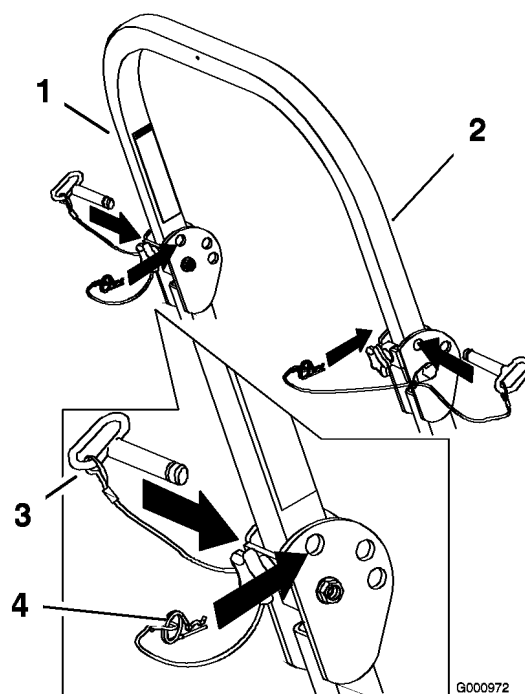

Figure 7
2. Remove the hairpin cotter pins and remove the two pins (Figure 7).
4. Install the two pins and secure them with the hairpin cotter pins (Figure 7).
5. To raise the roll bar, remove the hairpin cotter pins and remove the two pins (Figure 7).
6. Raise the roll bar to the upright position and install the two pins and secure them with the hairpin cotter pins (Figure 7).